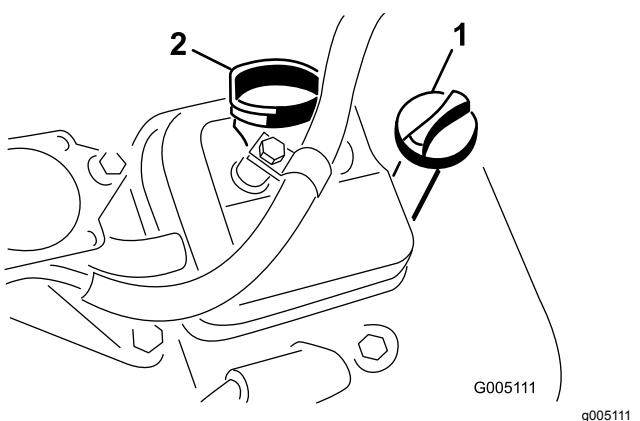

Figure 29
3. Insert the dipstick into the dipstick tube and thread it into the tube (Figure 29).